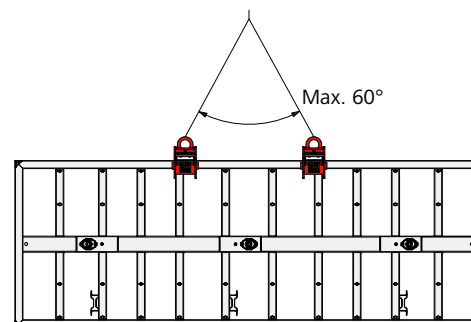

Fig. 39.6
- using the cross stiffeners on horizontal panels (Fig. 39.6)